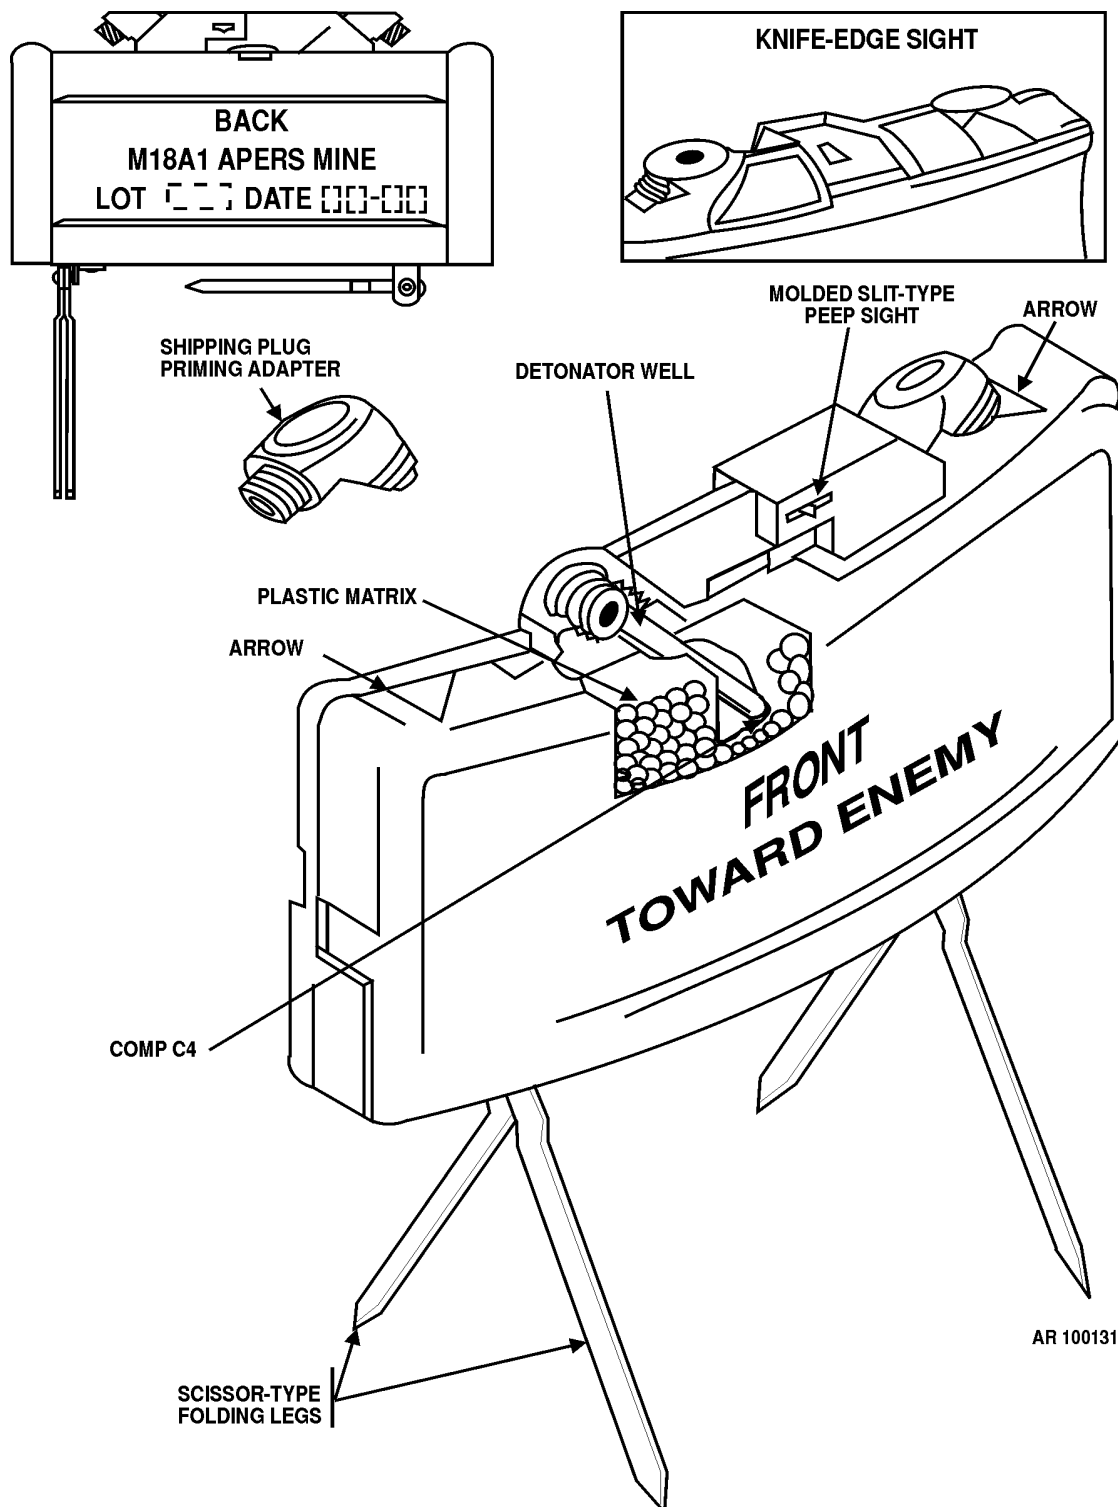

Figure 1-4. Mine, antipersonnel: M18A1.
(1) Mine (fig. 1-4) is a curved, rectangular, olive-drab, molded case of fiberglass-filled polystyrene (plastic) containing several hundred steel balls and high explosive, C4. The inside of the front face is lined with the steel balls, embedded in a plastic matrix, in back of which (behind matrix) is the layer of C4 explosive. The fragmentation face is convex (toward enemy) to direct the fragments in a 60° arc. A built-in sight and two pairs of scissors-type folding legs allow aiming of mine. It functions effectively in temperatures of -40° to 125°F and after having been submerged in salt water or fresh water for 2 hours.
(3) When mine M18A1 (fig. 1-4) has been armed, actuation of firing device handle (safety bail in armed position) produces an electrical pulse that will detonate blasting cap. The detonation of the blasting cap, in turn, detonates mine high explosive charge (comp C-4). Detonation of high explosive charge propels steel balls in mine toward the enemy in a fan-shaped pattern.